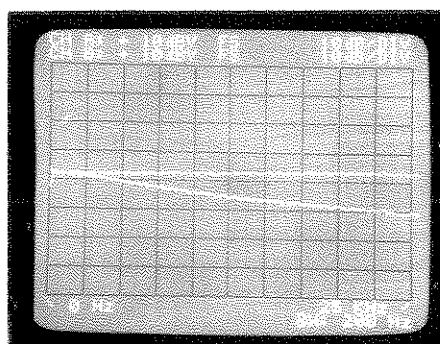

Figure 3-13. Input and Output Spectrum of a Low Pass Filter.
- g. The input and output of the low pass filter is described by the two traces and should appear similar to Figure 3-13.